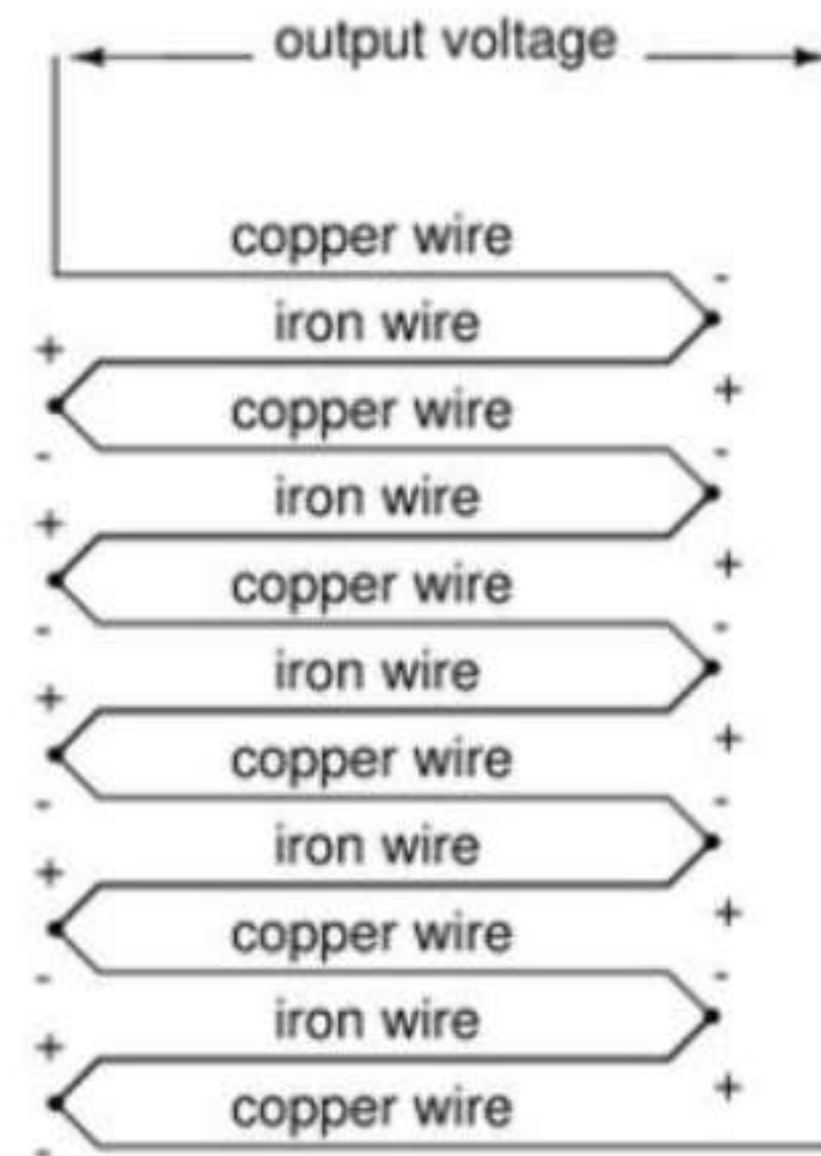

Figure 4.3: Thermopile
**Construction** The structure of the Thermopile is shown in figure 4.3. The output voltage of a single Thermo-electric cell is extremely small. So a number of these cells is connected in series/parallel to get a larger signal output. The arrangement of this thermocouple stack is called "thermopile".